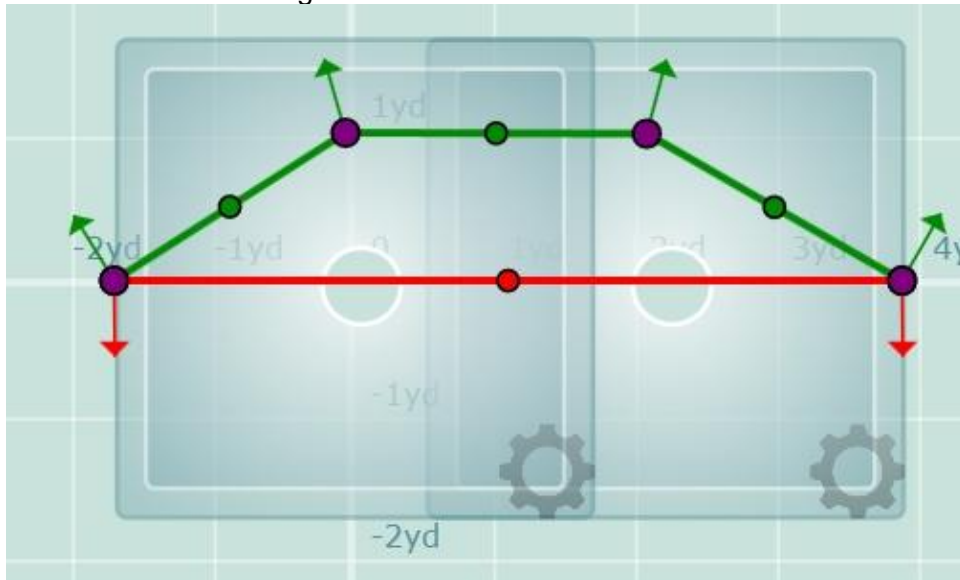

Figure 22
4. There will be one square for each sensor's field of view and one gear icon on each field of view to open the Device Settings menu specific to that device. See Figure 22 below.
5. In step 15, ensure that the configured count lines span across all of the sensors' fields of view. As also shown in Figure 22 above.